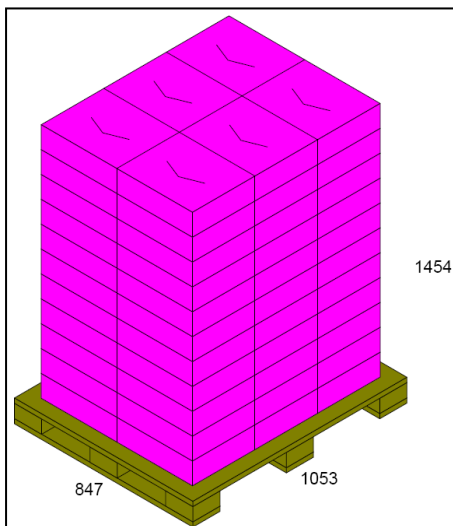

Fig 20
2. Stack the cartons as per fig 20, 21 & 22 noting the orientation of the cartons. Note each level is stacked in alternative orientations to the previous one.